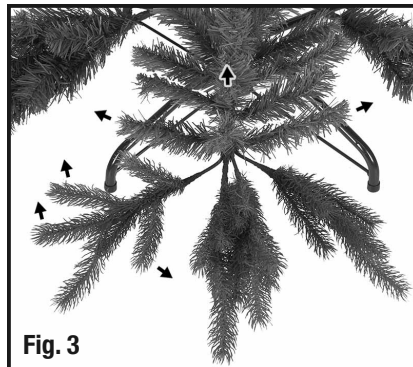
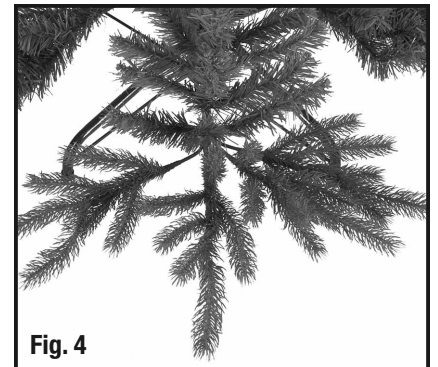

Fig. 3
Fig. 4
3. The smaller individual tips should then be spread out separately (Figure 3). Figure 4 shows a fully shaped branch with wing tips.